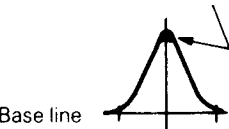

Fig. 8
1. Feed in a weak signal to IC101 body from the genescope. Adjust T101 for maximum gain and the waveform indicated in Fig. 8. If the center of the waveform cannot be lined up on the marker, adjust the right/left balance.